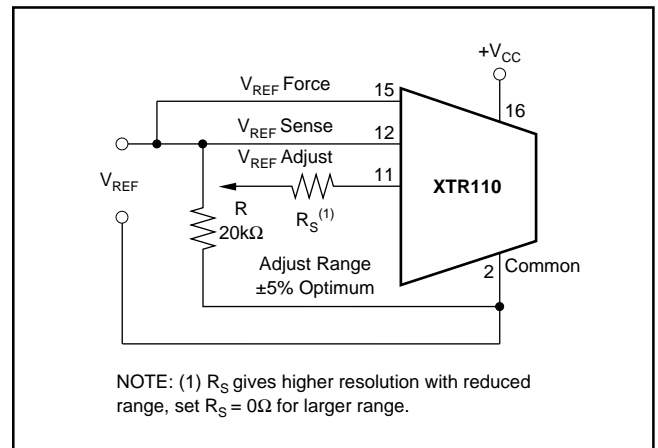
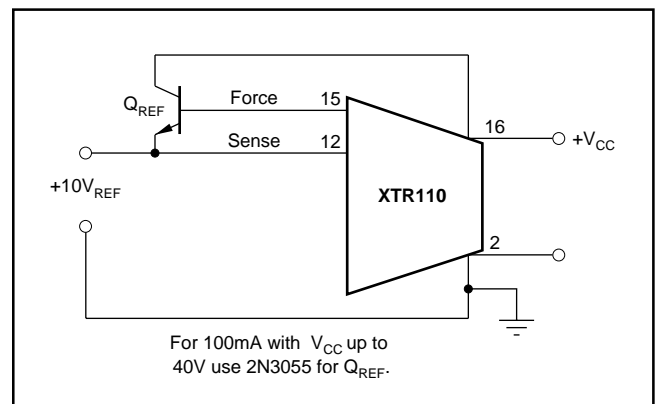

FIGURE 3. Optional Adjustment of Reference Voltage.
FIGURE 4. Increasing Reference Current Drive.
NOTES: (1) Including internal reference. (2) Span is the change in output current resulting from a full-scale change in input voltage. (3) Within compliance range limited by  $(+V_{CC} - 2V) + V_{DS}$  required for linear operation of the FET. (4) For  $V_{REF}$  adjustment circuit see Figure 3. (5) For extended  $I_{REF}$  drive circuit see Figure 4. (5) Unit may be damaged. See *Input Voltage Range* section.
3 should be connected to this point. The circuit in Figure 3 shows adjustment of the voltage reference.
The current drive capability of the XTR110's internal reference is 10mA. This can be extended if desired by adding an external NPN transistor shown in Figure 4.